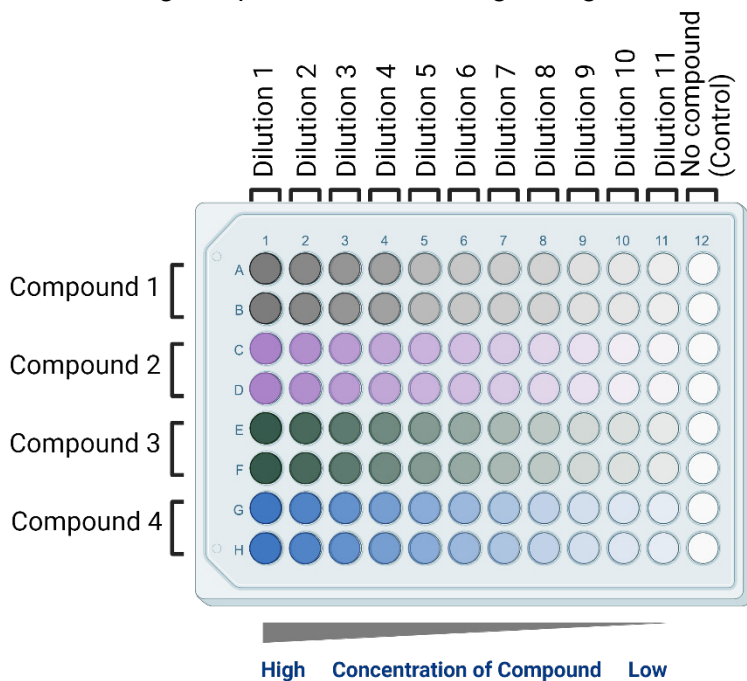

Figure 6. Compound Assay Plate Map - Agonist
2. Using a 12-channel pipette, add 10 μ L of each 11X agonist serial dilution in duplicate to the designated compound rows (e.g., Compound 1 in rows A and B; Compound 2 in rows C and D. Repeat for the remaining compounds as indicated on the Assay Plate Map - Agonist (Figure 6)).